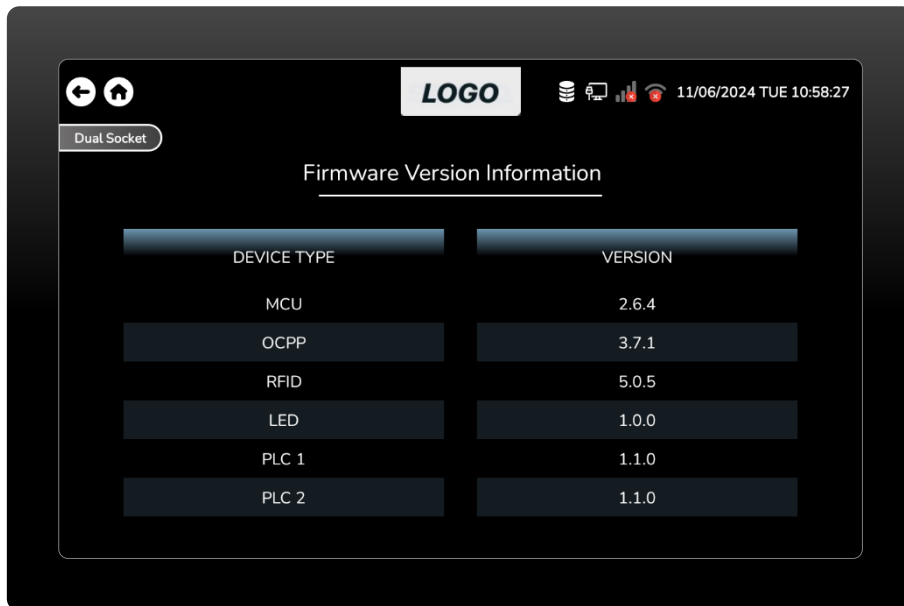

Figure 19 Firmware Version Information Screen.
- This is the firmware version information screen, where the user can find the latest firmware version for MCU, OCPP, RFID, LED, and PLC 1 and 2. (Figure 19)